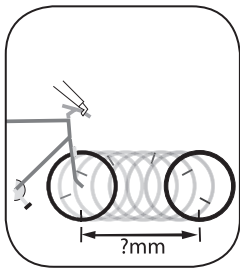

Figure 19- Measuring rollout for wheel size
1. With the valve stem of the front wheel directly over the floor Figure 19), sit on the bike.